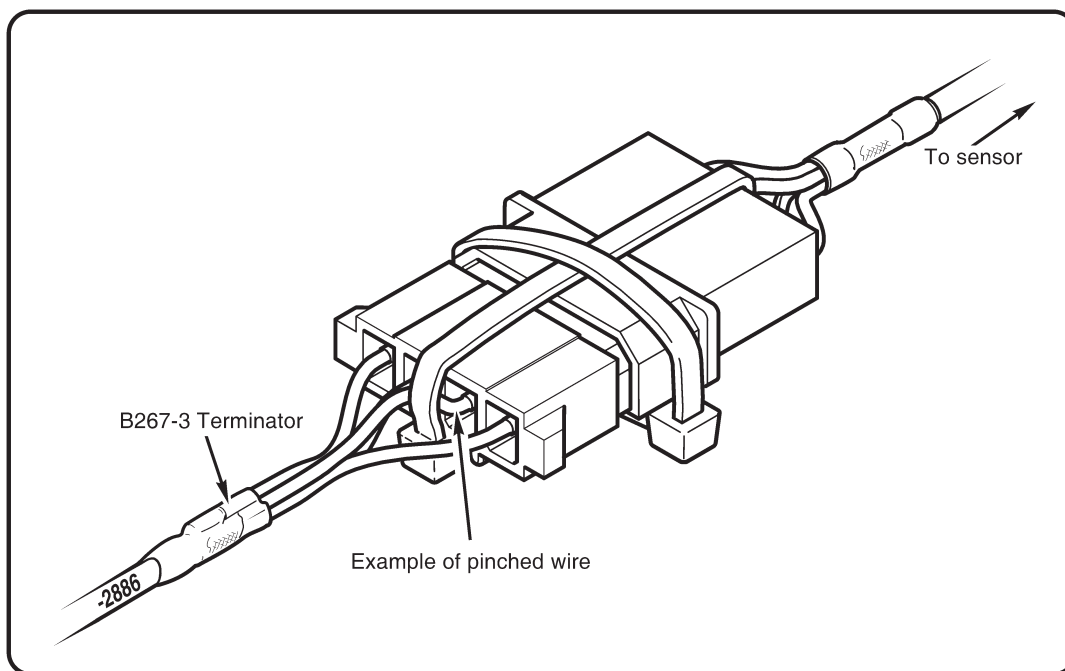

FIGURE 1 Inspect existing C143 sensor connection
4. Refer to Figure 1. Examine sensor-to-airframe connection. Determine if ty-rap securing sensor 4-pin housing to airframe 4-socket housing is pinching any wire(s); record damage.